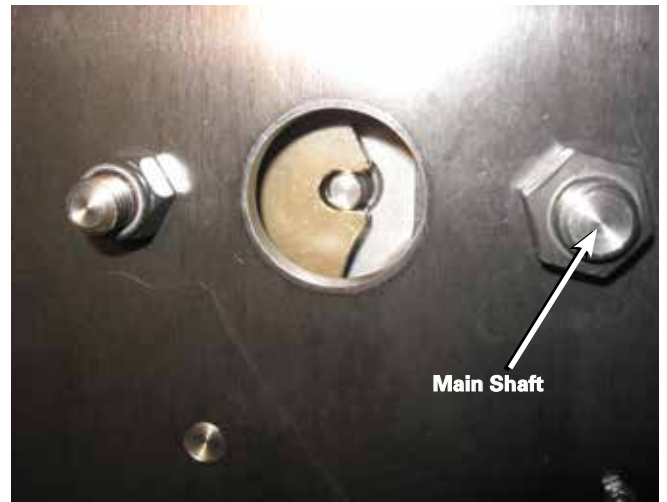

Figure 150. Main shaft with nut installed.
22. Push the shaft the remainder of the way through the hole in the steel plate. Secure the steel shaft to the steel panel using the 1/2" -13 lock nut. Use a 5/8" open end wrench to hold the steel shaft while securing the nut on the threaded end of the shaft with a 3/4" socket wrench. Tighten the nut to a torque of 180 to 400 in-lbs (20.3–45.2 Nm). Refer to Figure 150.